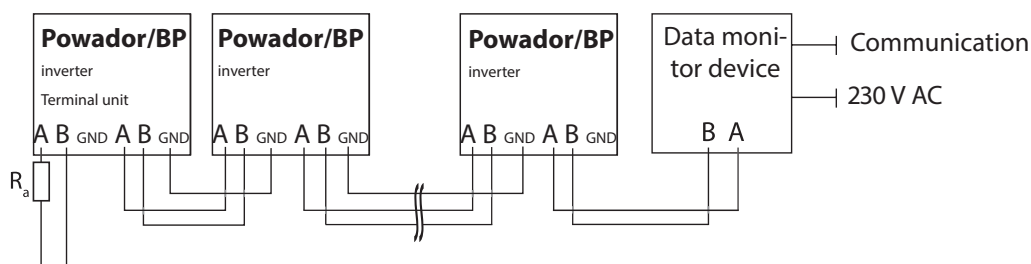

Figure 31: RS485 interface wiring diagram
- Wire B (+) to wire B (+) and GND to GND (Figure 31 on page 28)